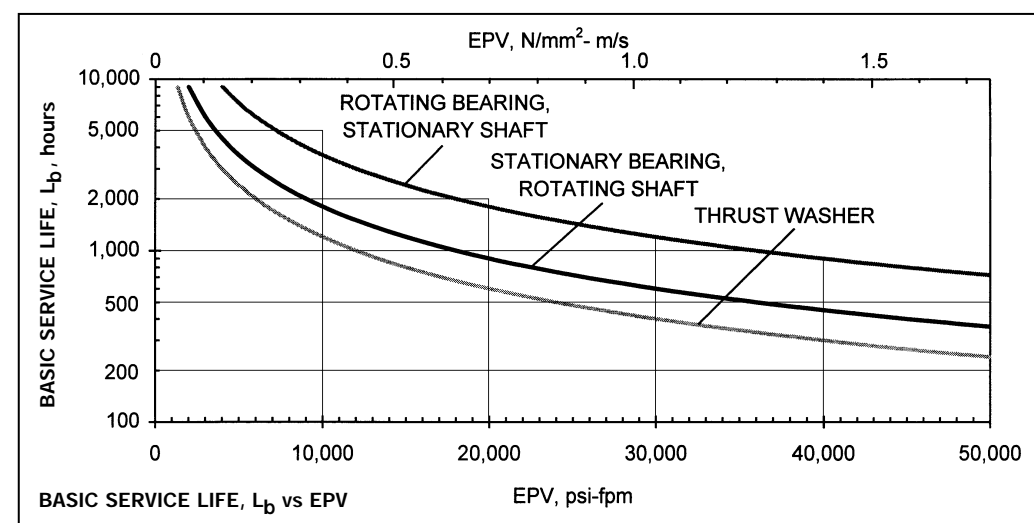

Figure 4-5. DU Basic Service Life in Hours
Figure 4-5 shows the basic service life in hours, assuming normal room temperature conditions, normal running clearances, and good heat dissipation of a well-proportioned bearing operating against low carbon steel with a surface finish of 16 microinches (0.4 micrometers). The following graphs and tables describe major factors affecting DU bearing life.
The calculated EPV factor, as described on page 4-6, is used to determine the basic DU bearing service life  $L_b$ . The estimated bearing life  $L_{DU}$  is calculated by applying various service factors to the basic service life  $L_b$ . Refer to Figure 4-5 and select the type of bearing, and then read the basic service life based on the calculated EPV. Now you can estimate DU bearing life.
- $L_b$  = DU basic service life, hours, Figure 4-5
- $L_b$  = for linear sleeve bearings use stationary bearing, rotating shaft basic service life, Figure 4-5; for linear slideways use thrust washer basic service life, Figure 4-5